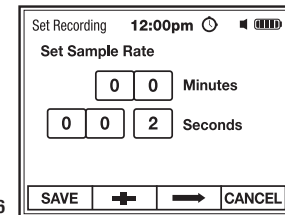
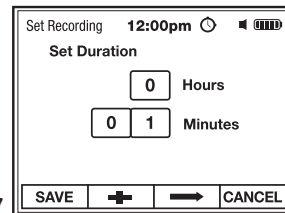

Fig. 6
Fig. 7
3. Set Sample Rate (Fig. 6) and Set Duration (Fig. 7) following the steps below: